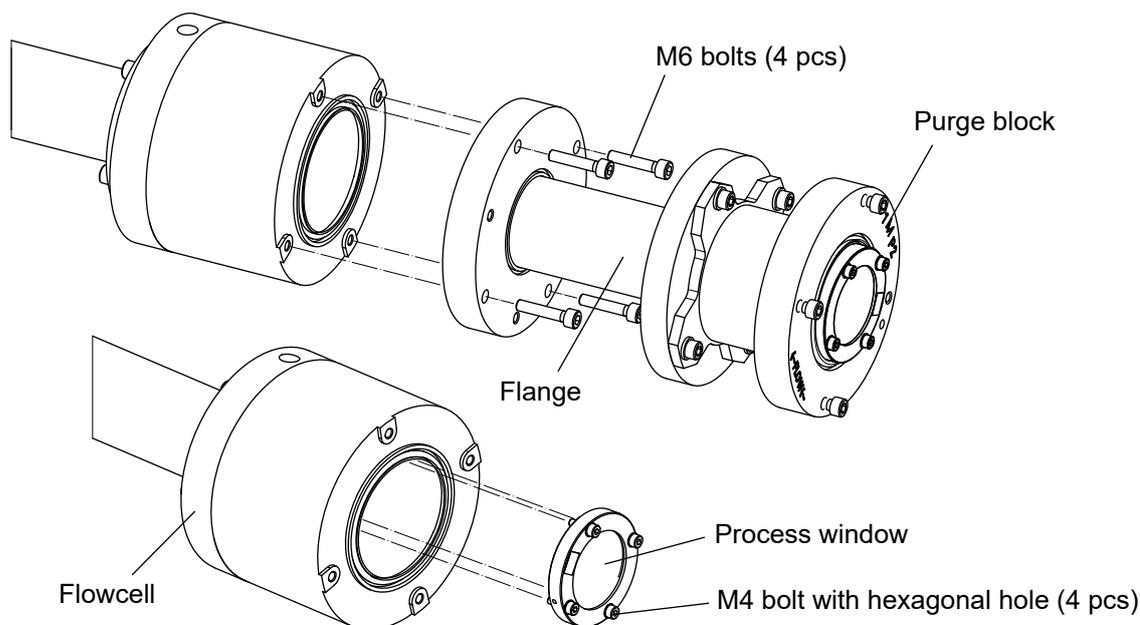

Figure 6.6 How to remove and install process windows
- (2) Remove the four M6 bolts.
- (3) Loosen the four M4 hex socket head bolts of the process window holder installed in the Flowcell section and remove the process window. (Figure 6.6)
- (4) Blow off particulate matter on the process window using clean, dry instrument air or nitrogen gas.
- (5) Wipe gently with warm water with hypoallergenic soap detergent and a soft cloth that will not scratch the surfaces of the process window. Then clean with alcohol (e.g., isopropyl alcohol) as needed.
- (6) Spray clean and dry instrument air or nitrogen gas again onto the surface of the process window and allow it to dry.
- (7) Carefully observe the surface of the process window from various angles to confirm that it is sufficiently clean and ready for use.
- (8) Install a cleaned process window (or a new process window). Install the process window in the same direction as it was removed, noting the orientation of the window. At this time, tighten the screws evenly.
- (9) After installing the process window, fix the flange with four M6 bolts and attach the analyzer part to the purge block. (Figure 6.6, Figure 6.12) If the transmittance is significantly lower than before the work, adjust the optical axis again before use.